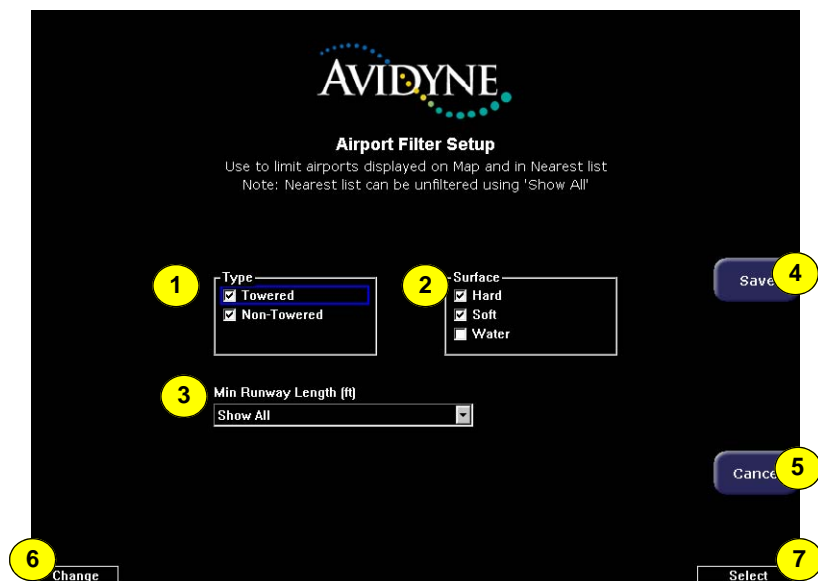

Figure 8.2 Airport Filter Setup Page
- 5) **FILTER**—Press to see all airport types (SHOW ALL) or only the airport types as defined on the Airport Filter page (ON) (see Section Figure 8.2, "Airport Filter Setup Page" on page 68). *Filter* is only visible on the Nearest Airport pages.